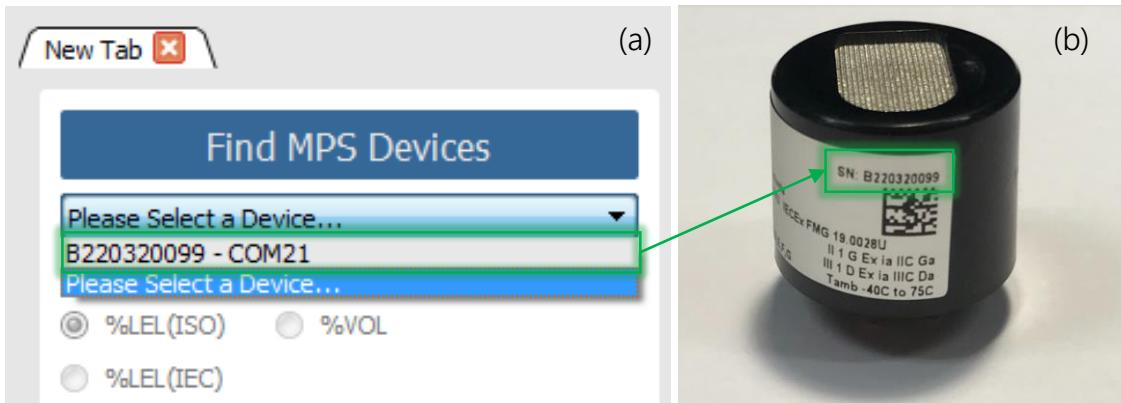

Figure 4 – (a) Selecting the active MPS™ Flammable Gas Sensor. (b) Device serial number
6. Click the "Find MPS Devices" button and select the MPS Flammable Gas Sensor connected to the computer (Figure 4). The sensor name is found on the sensor serial number in the form: Bxxxxxxxxx.